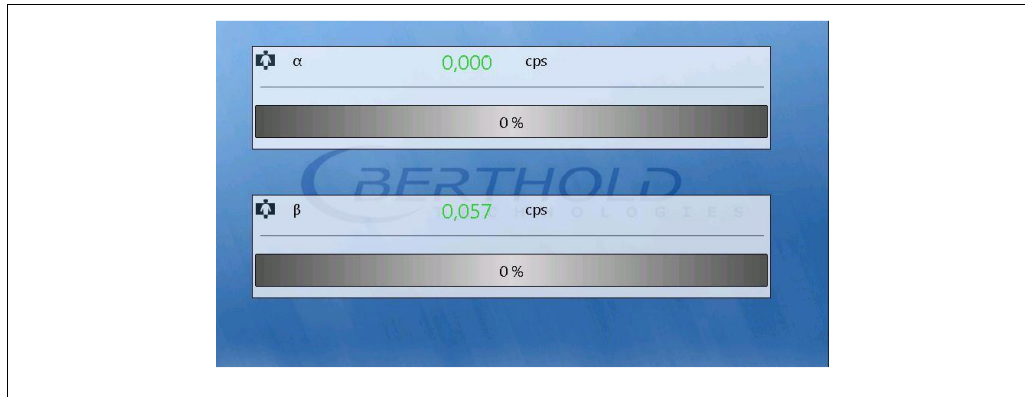

Fig. 17 Clothing contamination measurement
- ▶ In the clothing measurement dialogue, the measurement values of the alpha and beta channel are displayed in counts per second (cps) (Fig. 17).